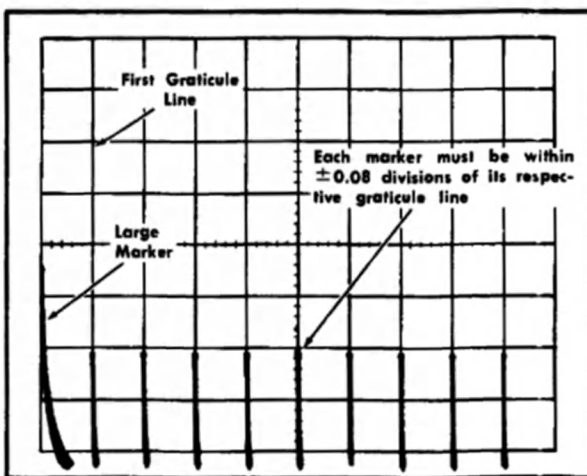

Fig. 5-15. Typical CRT display when checking magnifier timing and linearity.
- CHECK—CRT display for one small marker each division between the first and ninth graticule line (see Fig. 5-15). With the second marker positioned to the first graticule line, the tenth marker must be within 0.4 division of the ninth graticule line (timing within $\pm 5\%$).
- CHECK—Each marker in CRT display must be within 0.08 division of its respective graticule line (1% linearity; see Fig. 5-15).